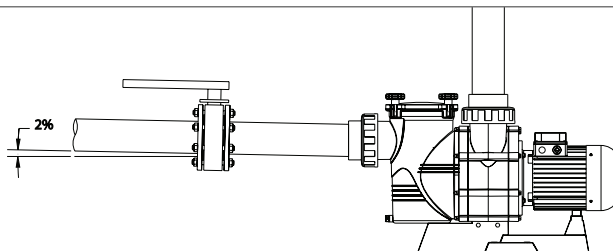

Fig. 2
- The connection of the pipes must be threaded to the outlets of the pump. (Fig.2)
- Impulsion tube installation is done totally perpendicularly and is well centred with respect to the nozzle to be connected so as to avoid external pressure being exerted on the pump and the tube. Apart from making assembly more difficult, this pressure could even break them. (Fig. 2)
- Suction tube installation is done at a slight angle of 2 % towards the pump, thus avoiding siphon formation. (Fig.2).